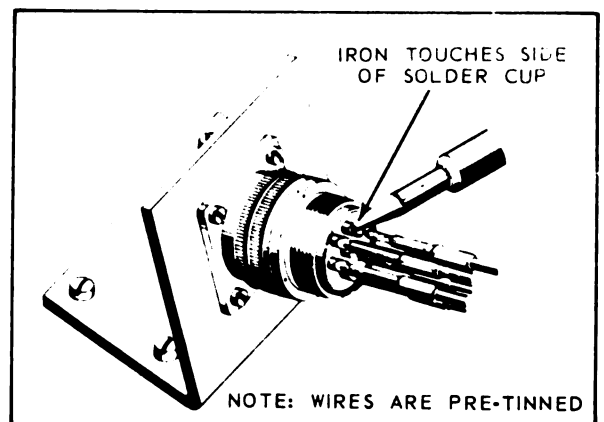
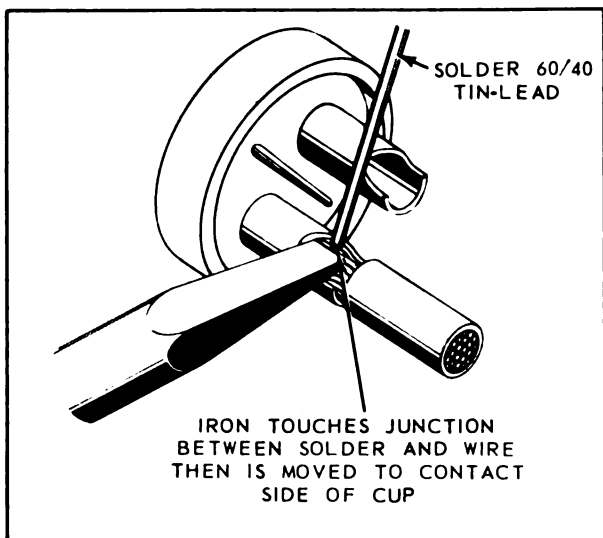

Figure 3-34. Soldering Small Size Contacts
Figure 3-35. Soldering Medium Size Contacts
b. Contacts which have not been removed from inserts are soldered as shown in figures 3-34 and 3-35. The solder is flowed by placing the iron alongside the solder cup as the wire is being inserted into it. Medium size contacts such as #8 and #12 will solder more easily if the iron is held at the point where the wire touches the cutaway of the solder cup as shown in figure 3-35. Adding a small quantity of 60/40 rosin-core solder at this point will aid in carrying the heat into the joint.